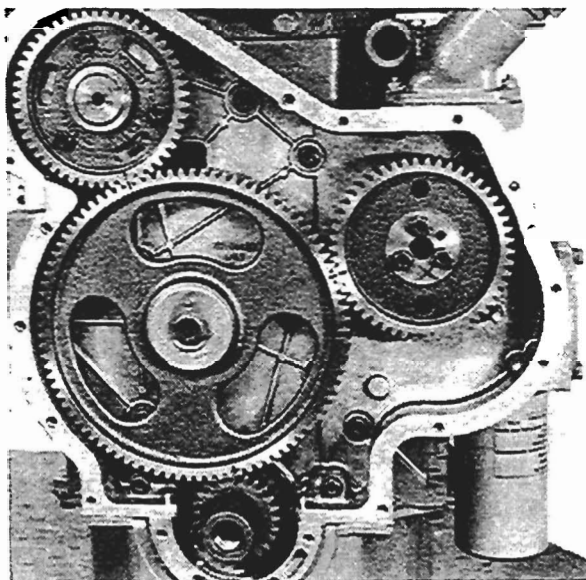

Fig. L1
1. Ensure that the crankshaft, camshaft and fuel injection pump gears are in a position as shown in fig. L1 with the marks on the teeth towards the idler gear position. If the crankshaft or camshaft has to be turned, it will be necessary to remove the rocker shaft to ensure a piston does not contact a valve.
The timing gears are stamped with timing marks to ensure correct assembly (see fig. L1).
7. Fit idler gear with all timing marks on teeth of gears aligned (see fig. L1).